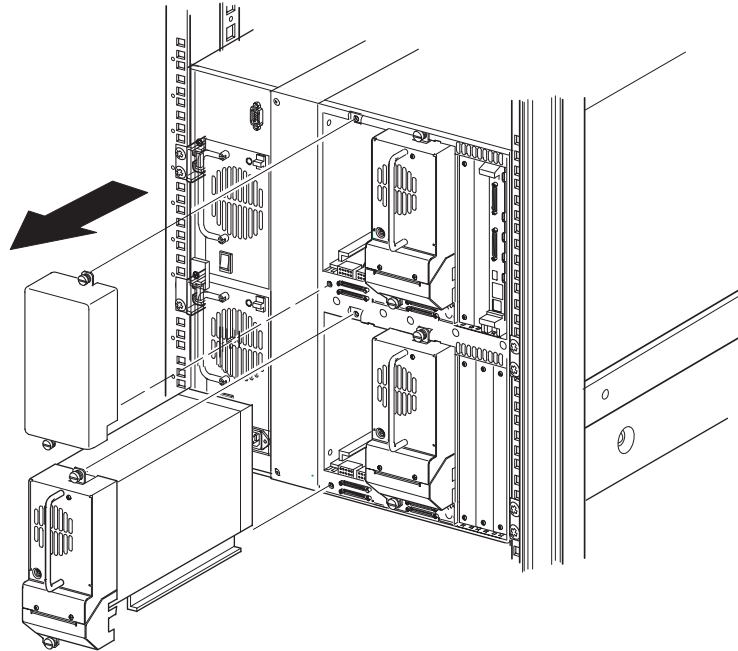

Figure 66. Drive shoe and blank panel removal
3. Remove drive shoe 2 as shown in Figure 66 on page 73 or the blank cover for each module that will use the cartridge elevator.